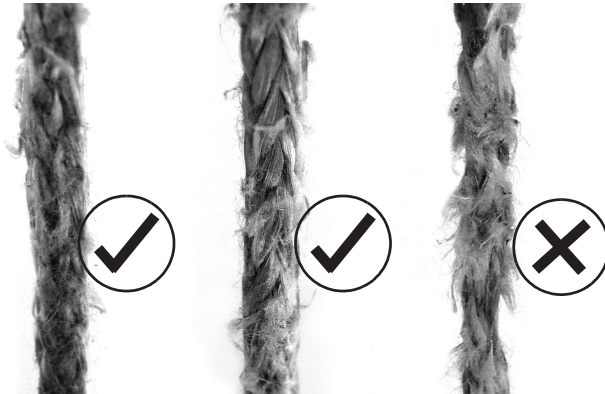
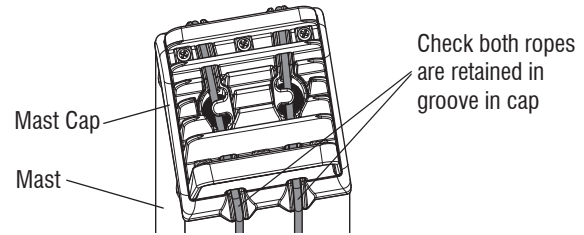
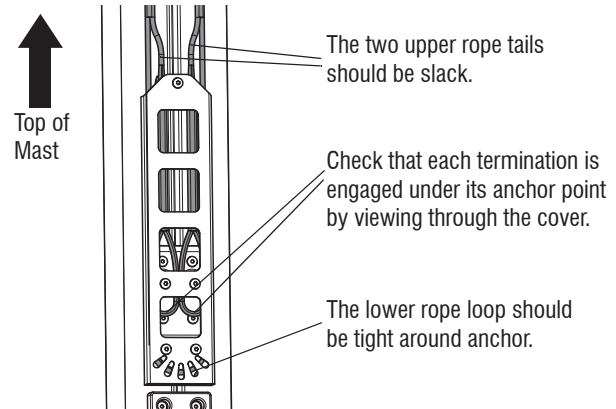

Figure 2-4. Examples of new, acceptable and unacceptable ropes
Figure 2-5. Ropes retained in mast cap
Figure 2-6. Rope anchor points
- 7. Rope Assembly** - Check rope is not frayed or damaged (Figure 2-4.). Ensure it is tensioned tightly and seated properly around take-up drum (view via carriage inspection window - see Figure 6-3.). Ensure it is seated correctly over mast-cap (Figure 2-5.) and at anchor point at back of mast (Figure 2-6.). Indications that rope needs replacement include:
1. Frayed or fluffy rope (Figure 2-4.)